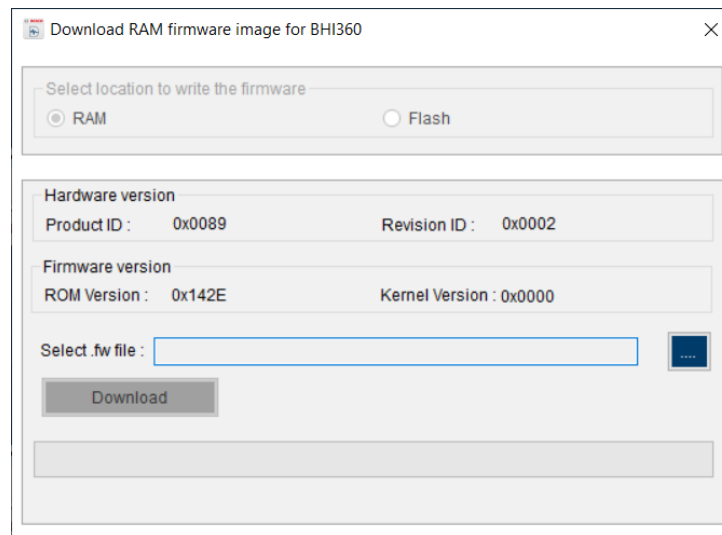
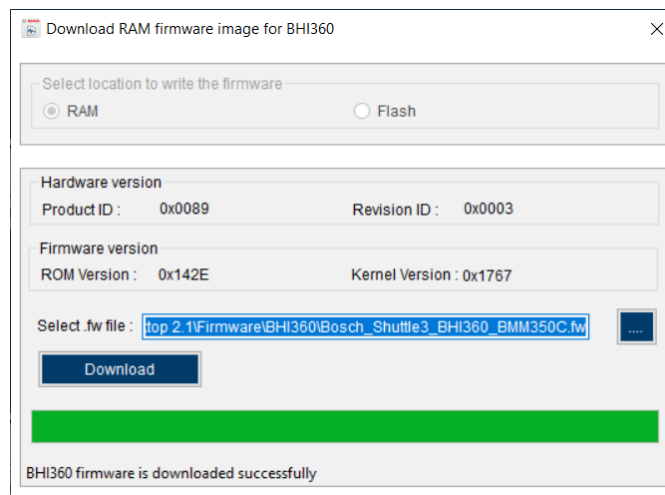

Figure 2 RAM patch download dialog
Figure 4 Download RAM patch
- Launch DD2.1 SW and DD2.1 will automatically recognize the BHI360 shuttle board. A dialog window will pop up asking users to download the RAM patch as shown in Figure 2.
- Click the “Download” button in Figure 2. After a short while users should see the text “BHI360 firmware is downloaded successfully” as shown in Figure 4. Then close this dialog.